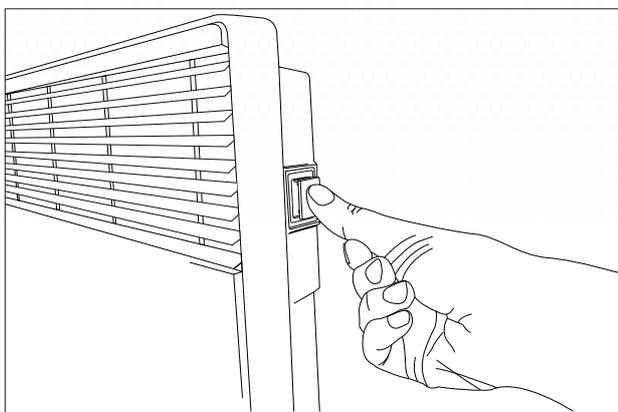

FIG:3
- Once the key is located into the T slot, push the key home until it is flush (see fig 3). Once the key is fitted the heater will be able to operate when the thermostat is calling for heat.